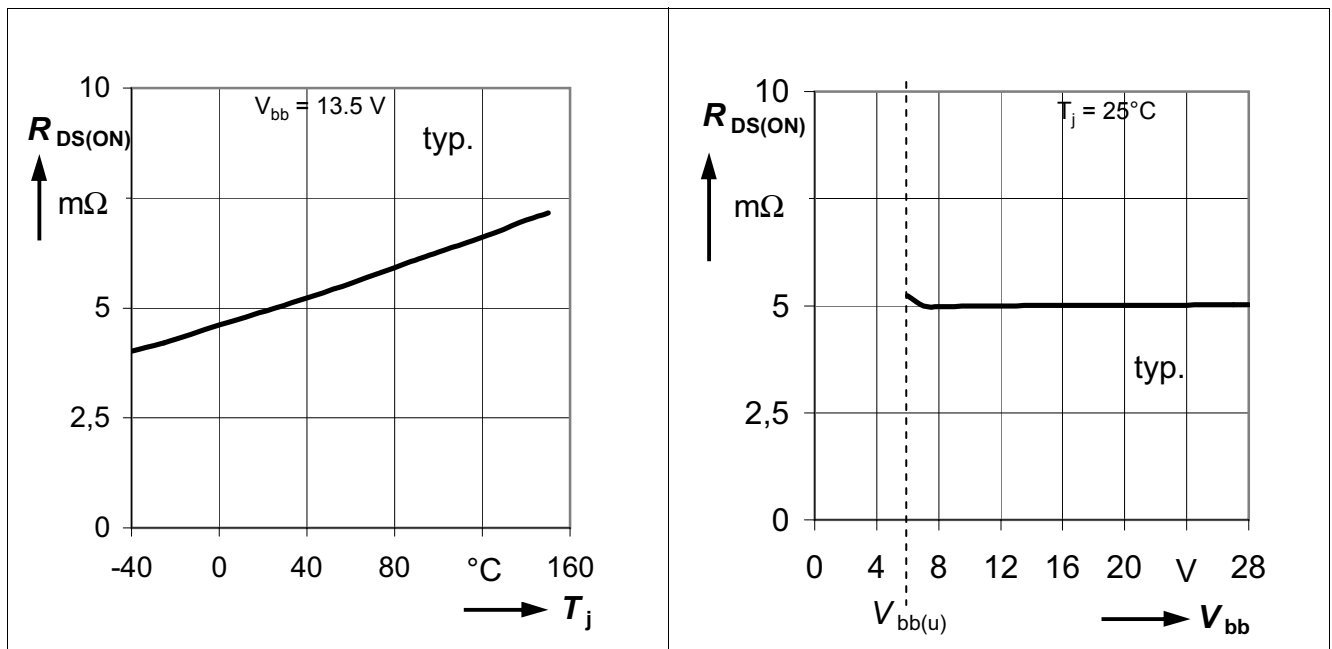

**Figure 5** Input Circuit
**Figure 5** shows the input circuit of the BTS50050-1EGA. The input resistor to ground ensures that the input signal is low in case of open input pin. The zener diode protects the input circuit against ESD pulses.